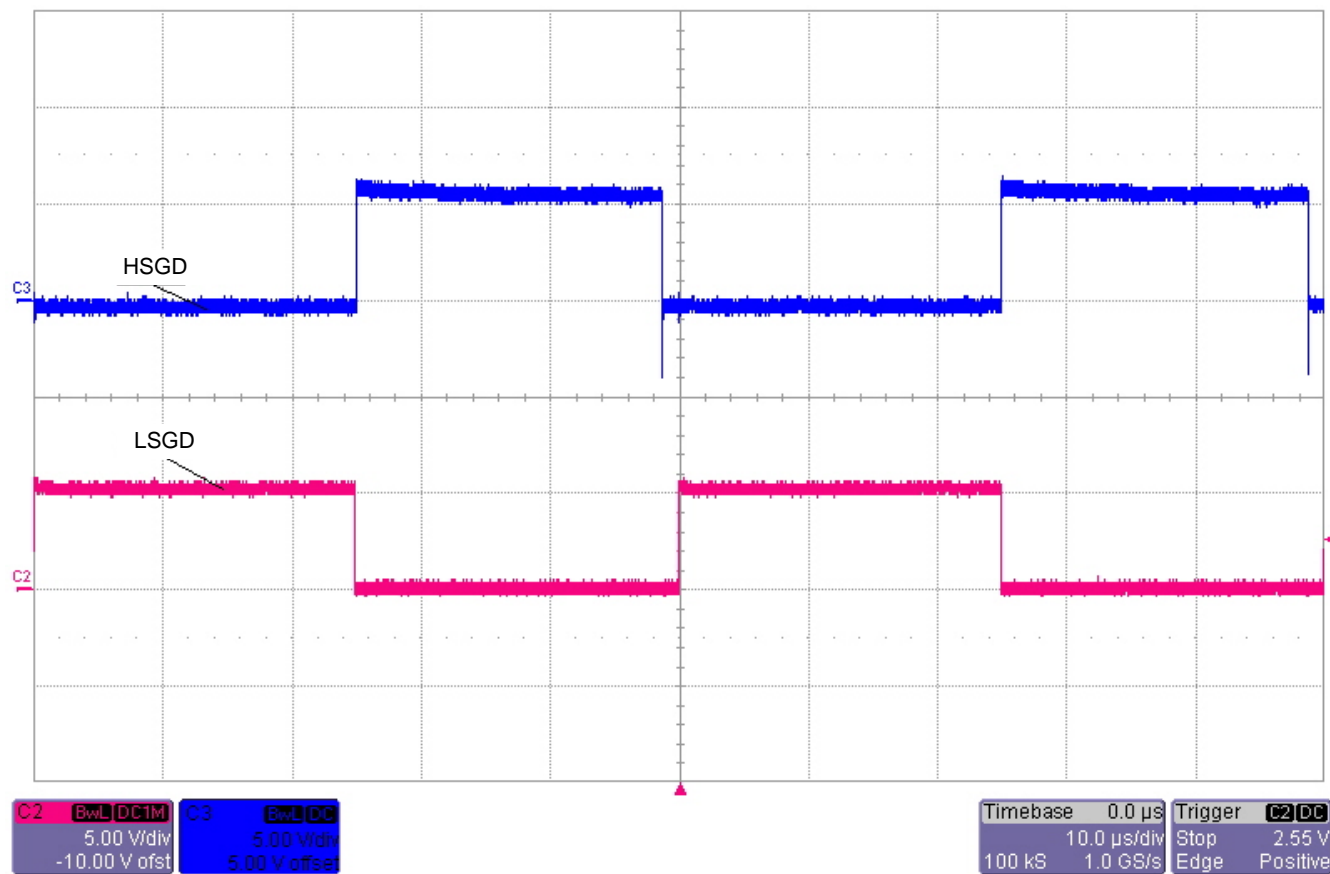

Figure 6. VGS (HI) and VGS (LO) waveforms
- 4) Observe the HSGD and LSGD waveforms. They should look like the waveforms in Figure 6.